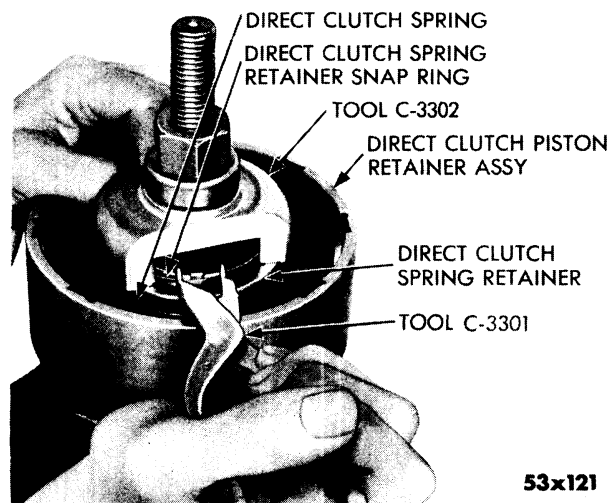

Fig. 87—Removal and Installation of Direct Clutch Spring Retainer Snap Ring
- (6) Using Tool C-3302, compress the direct clutch spring sufficiently to unseat the direct clutch spring retainer snap ring with Tool C-3301, as shown in Figure 87.
- (1) Coat a new direct clutch piston seal ring with MOPAR Lubriplate and install on piston, with lip of seal facing away from the flange.
- (2) Coat a new direct clutch piston retainer seal ring with MOPAR Lubriplate and install (lip of seal down) on retainer hub.
- (3) Place piston assembly in the direct clutch retainer and, with a twisting motion, seat piston in bottom of retainer. Use care not to damage lip of seals.
- (4) Seat the direct clutch spring into the direct clutch piston retainer and position spring retainer and snap ring on spring.
- (5) Using Tool C-3302, compress the direct clutch spring sufficiently to seat the snap ring. (Fig. 87.)